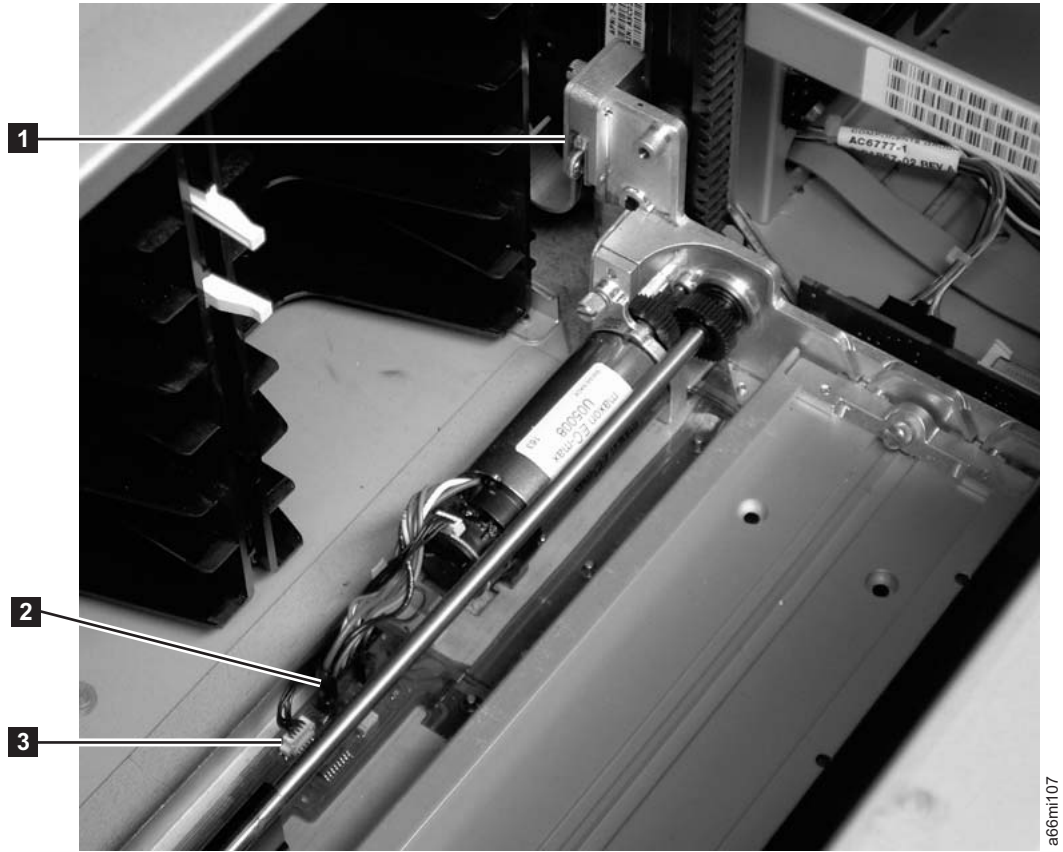
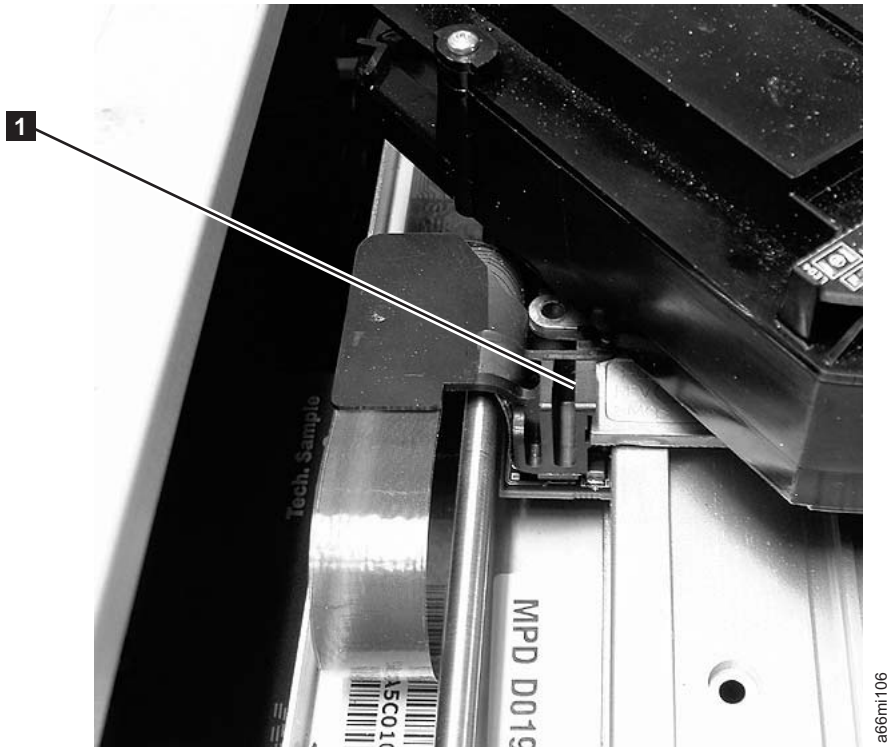

Figure 7-14. Y-axis and Y motor assembly connectors
Figure 7-15. Picker assembly connector
6. Visually check, and reseat if necessary, all of the connectors on the Y-axis assembly. See **1**, **2**, and **3** in Figure 7-14 on page 7-27, and also on the Picker Assembly. See **1** in Figure 7-15 on page 7-28.